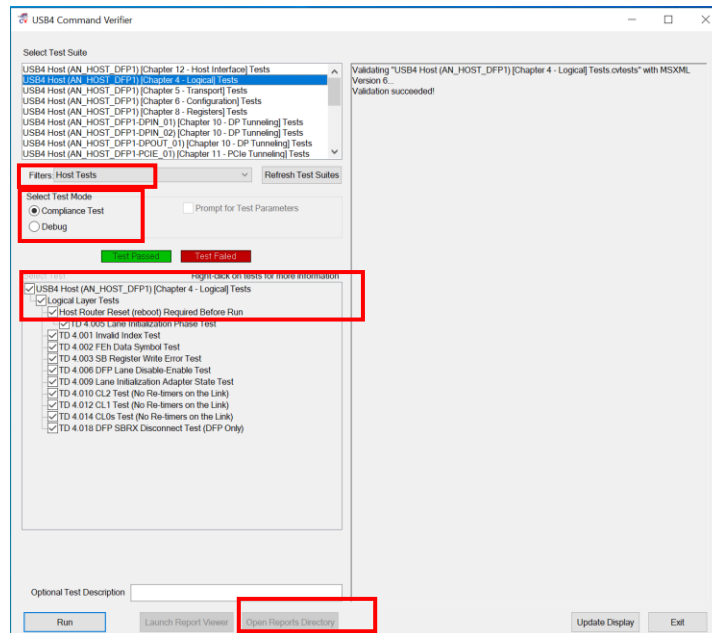

Figure 2.14: USB4 CV
3. Some tests require reboot, so users are expected to reboot the system before running this test (Figure 2.14)
Once a test is selected, for example in figure 2.14, chapter 4 analyzer host test is selected. Now, go to the CTS and check for Chapter 4 Analyzer Host setup (AN_HOST_DFP1). Once the setup is finished and everything is connected, press run in the USB4 CV.